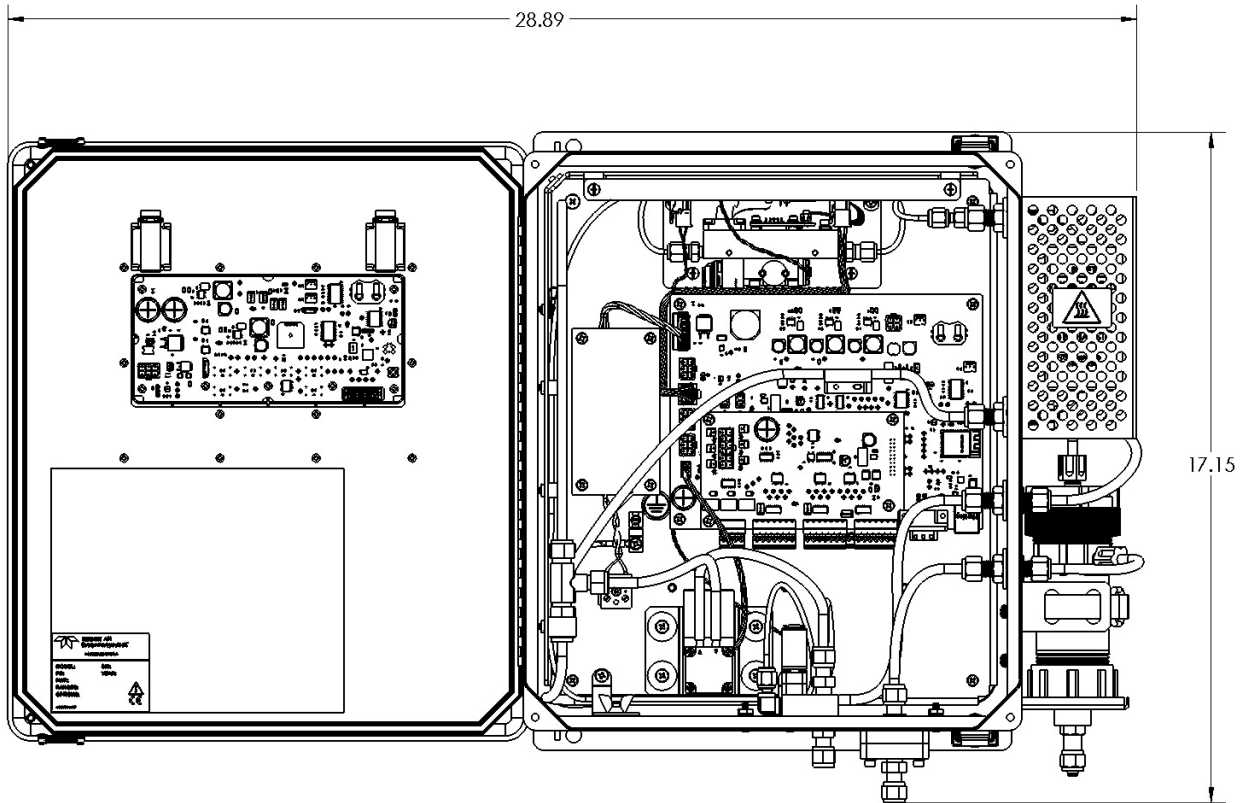

Figure 3-2: 480M Mounting Hole Locations and Dimensions
- The illustrations in Figure 3-2 show the mounting dimensions and the sizes and locations of the four mounting holes, which are 0.32" (8.128 mm) diameter.